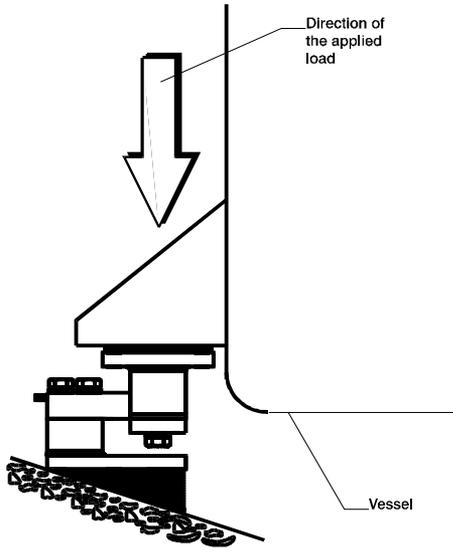

FIG. 5-1 PROPERLY INSTALLED LOAD CELL W/NO BINDING
- Mount load cells so that 100% of the load (Vessel w/Contents) passes vertically through a cell. (See Fig. 5-1)